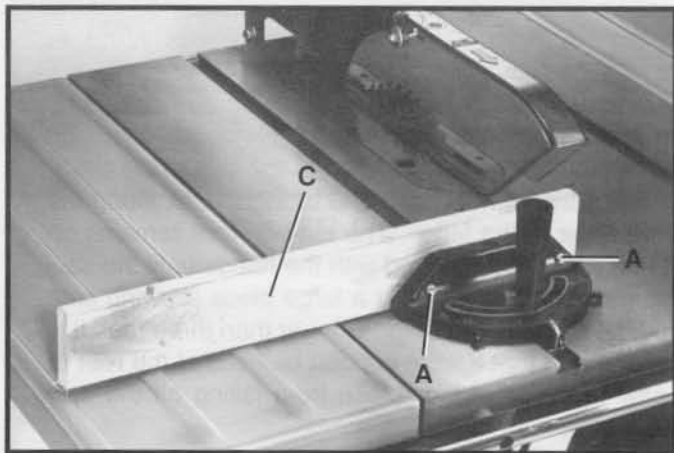

Fig. 59
For added safety and convenience the miter gage can be fitted with an auxiliary wood-facing (C), as shown in Fig. 59, that should be at least 1 inch higher than the maximum depth of cut, and should extend out 12 inches or more to one side or the other depending on which miter gage slot is being used. This auxiliary wood-facing (C) can be fastened to the front of the miter gage by using two wood screws (A) through the holes provided in the miter gage body and into the wood-facing.